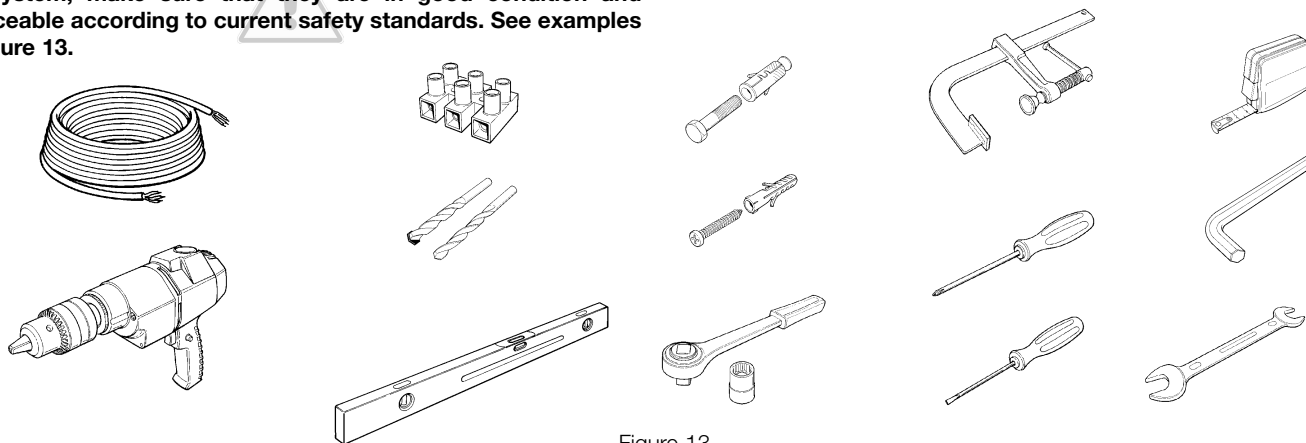

Figure 13
**Make sure you have all the tools and materials needed to install the system; make sure that they are in good condition and serviceable according to current safety standards. See examples in Figure 13.**